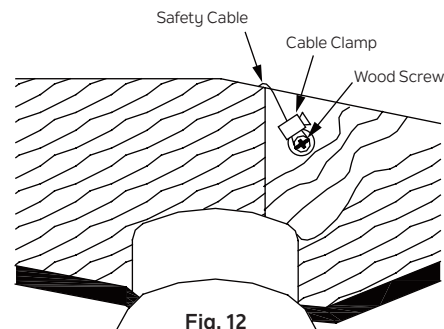

Fig. 12
Step 2. Insert the safety cable through the mounting bracket and one of the holes in the outlet box into the ceiling. Adjust the length of the safety cable to reach the wood screw and flat washer by pulling the extra cable through the cable clamp until the overall length is correct, put the end of the cable back through the cable clamp, forming a loop at the end of the cable. Tighten the cable clamp securely. Now, put the loop in the end of the safety cable over the wood screw and under the flat washer. Tighten the wood screw securely. **(Fig. 12)**